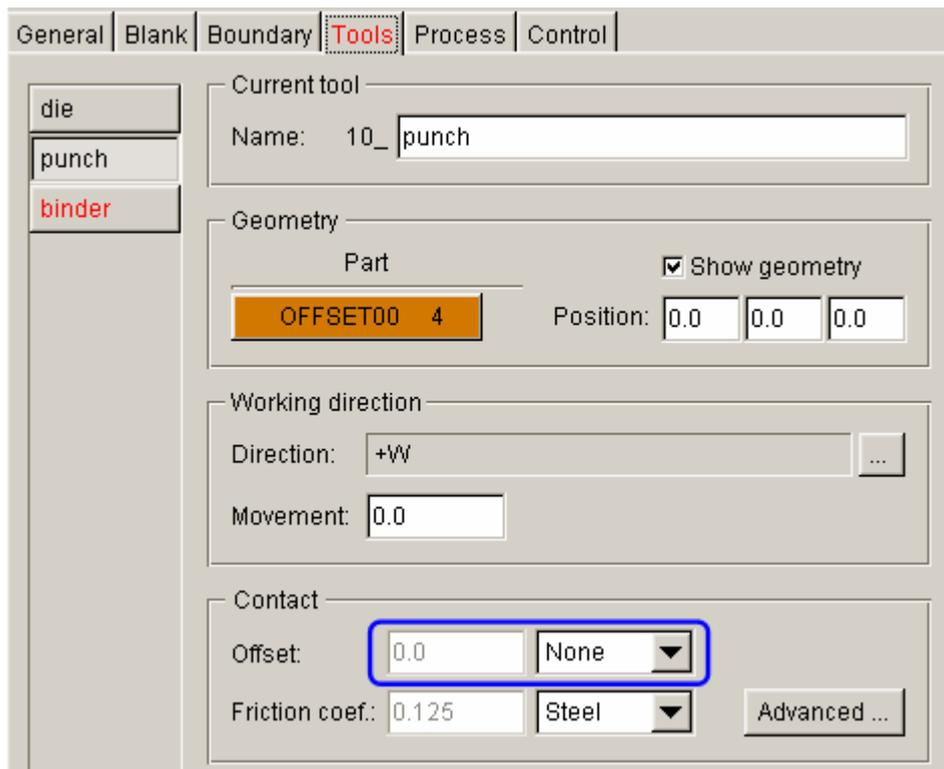

Figure 5.53 Punch definition
20. Click **Exit** button to return to tool definition interface. The font color of **punch** is also changed to BLACK, as illustrated in Figure 5.53. Since the DUAL option was selected in NEW SIMULATION dialog box, the **None** option is automatically selected in the Contact Offset field illustrated in Figure 5.53. It means numerical contact offset is not applied to punch.